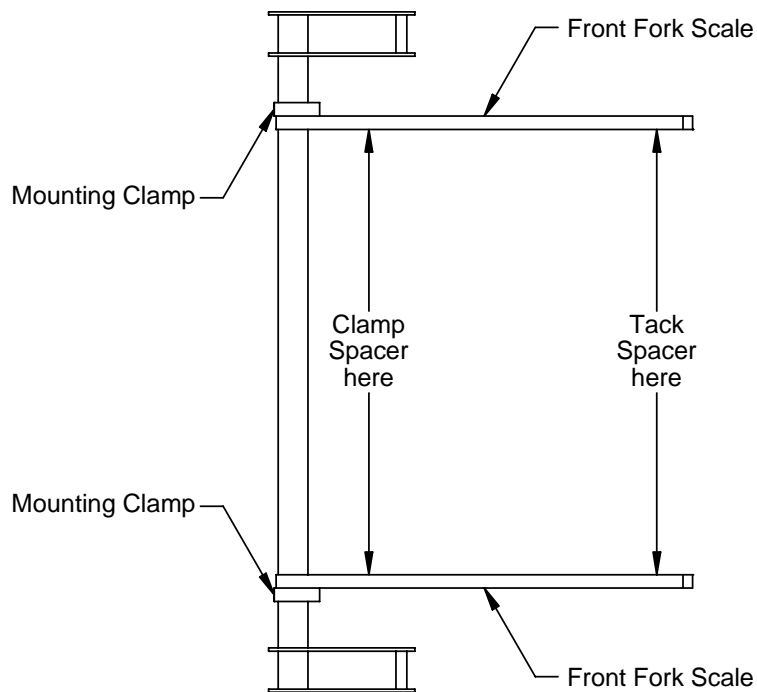

Figure 5-F
5.5.3 Tack weld the Mounting Clamps to the cross tube (refer to Figure 5-G). **Note: DO NOT** tack the Front Fork Scale to the mounting clamp.